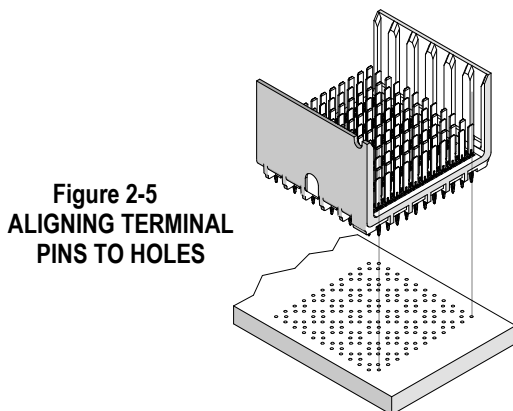

Figure 2-5
1. Carefully pre-seat, by hand, the backplane signal module(s) into the printed circuit board hole pattern. Make sure the connector(s) are oriented properly by confirming the location of the #1 circuit notch with respect to the printed circuit board layout. See Figure 2-5.